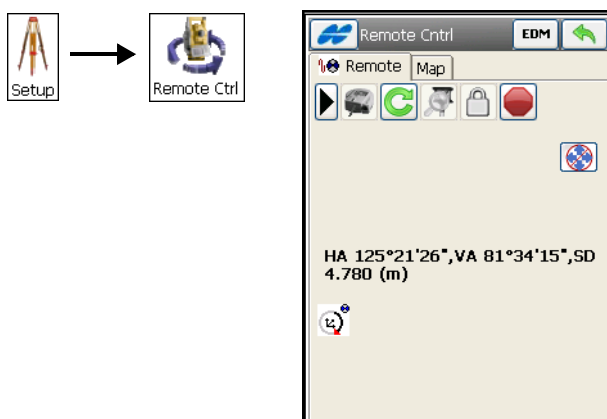

Figure 8-50. Remote Control
1. Tap **Setup ▶ Remote Control** (Figure 8-50).